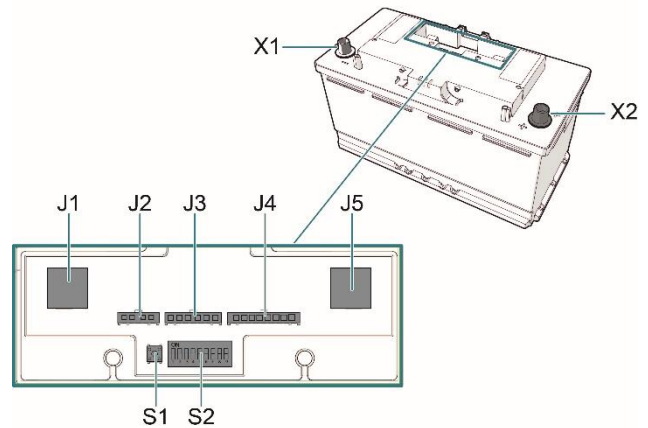

Figure 4: Connections and battery controls
- Press the red button (S1 in Figure 4) for 2 seconds.